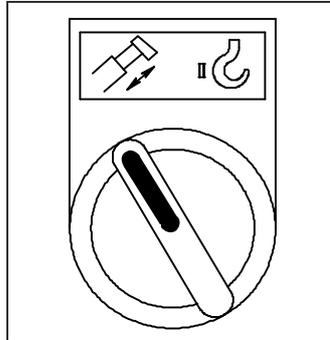

Figure 04 – 30
- b) As illustrated in Figure 04 – 31.